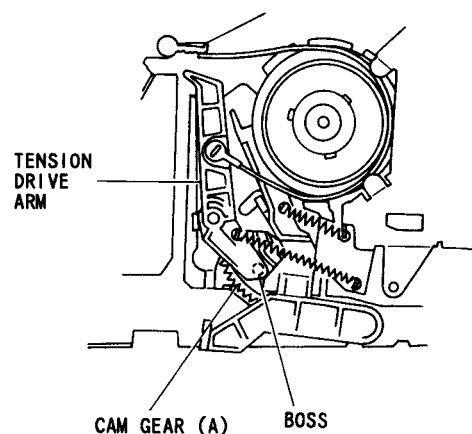

Fig. 6-7
- 2) Insert the boss of this arm into the groove in cam gear (A). (See Fig. 6-7)